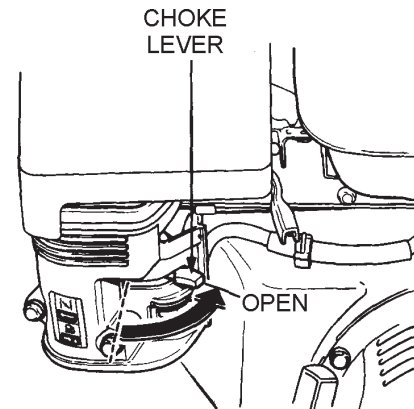

Figure 8. Engine Choke Lever (Open)
3. Place the **choke lever** (Figure 8) in the "OPEN" position if starting a *cold engine*.